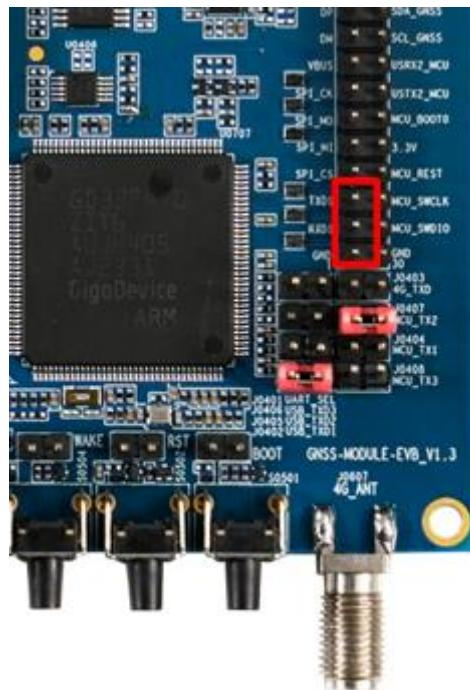

Figure 23: Injecting Vehicle Speed via UART
- Step 2:** Connect TXD1, RXD1, and GND of J0502 to your device, as shown in Figure 23: Injecting Vehicle Speed via UART.